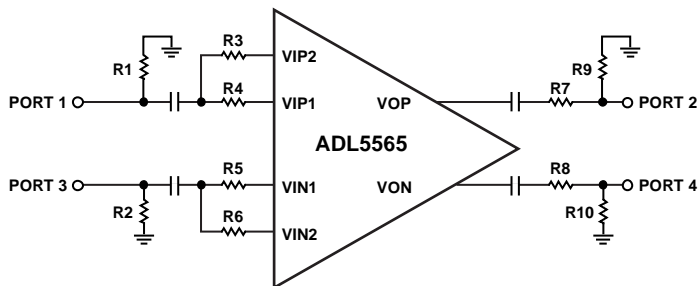

Figure 43. Differential Characterization Circuit Using Agilent E8357A Four-Port PNA
**Table 14. Gain Setting and Input Termination Components for Figure 43**
**Table 15. Output Matching Network for Figure 43**